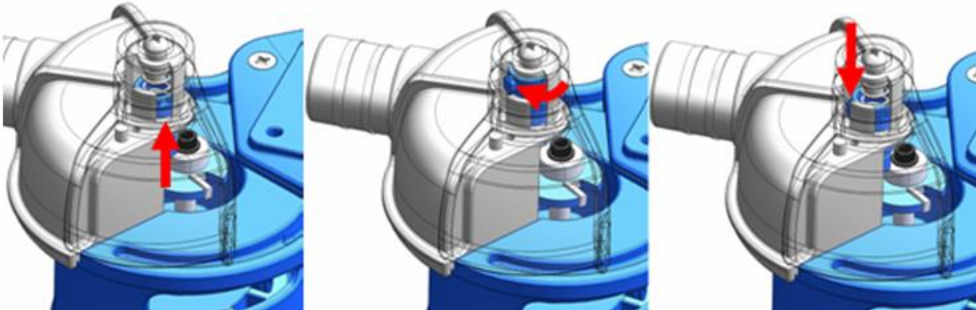

Fig. 8
- Press the pin upwards and rotate the pin as shown in Fig. 8 & 9. Once the pin is pushed down and relocated, the surface on the different sides of the pin can stop the bearing from rotating with the cutter at the same time.